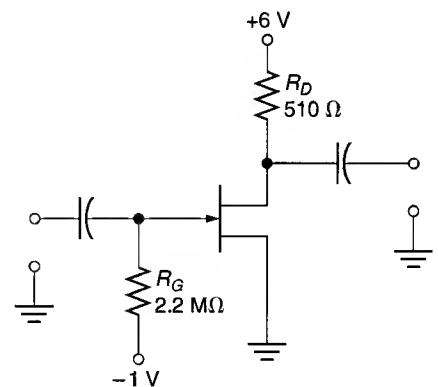

FIGURE 12.55
18. The 2N3438 (described in Problem 12) is used in the circuit shown in Figure 12.55. Determine the range of I_D values for the circuit. (*Hint:* See the margin note under *A Practical Consideration* on page 471 of the text.)